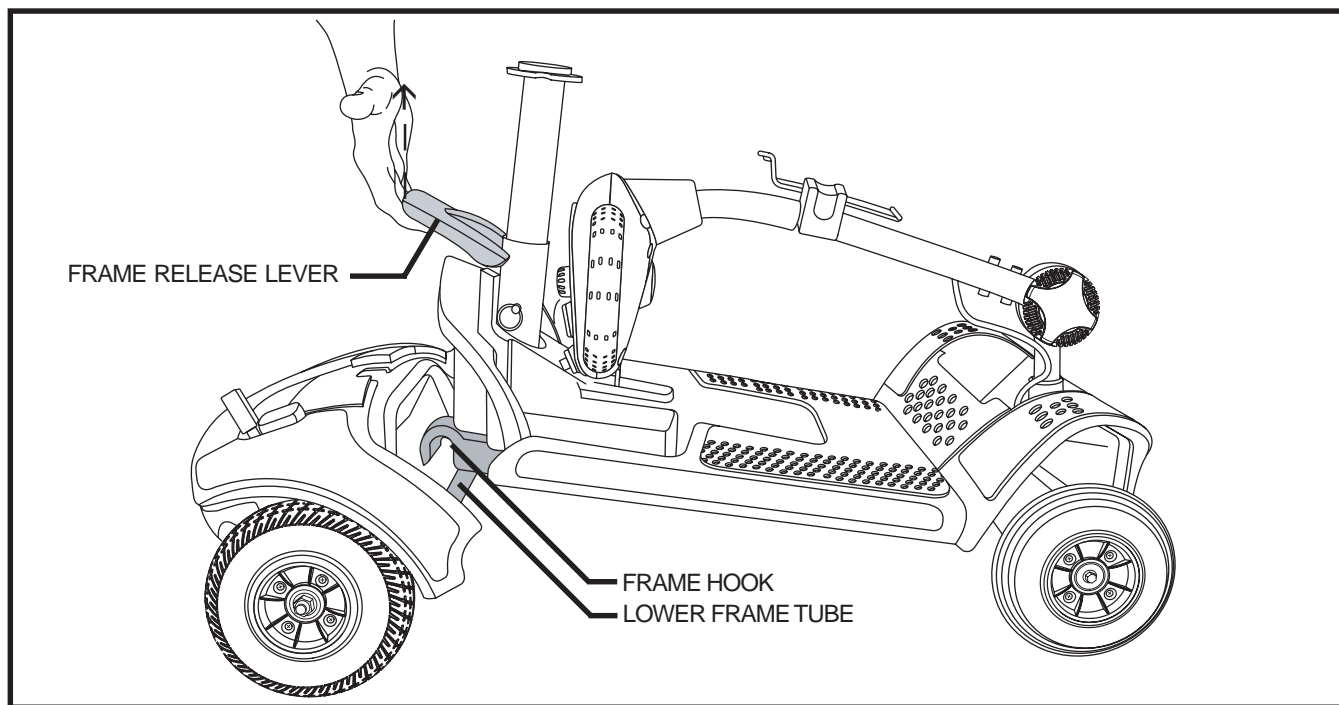

Figure 23. Frame Separation
2. Lift up on the frame release lever until the frame hooks are no longer resting on the lower frame tube. See **figure 23**.
**NOTE:** Before attempting assembly, tilt the rear half of the Travel Scooter slightly back on the anti-tip wheels as shown in figure 23.
1. Use the frame release lever to lift the front section as you align the frame hooks of the front section with the lower frame tube of the rear section. **See figure 23.**